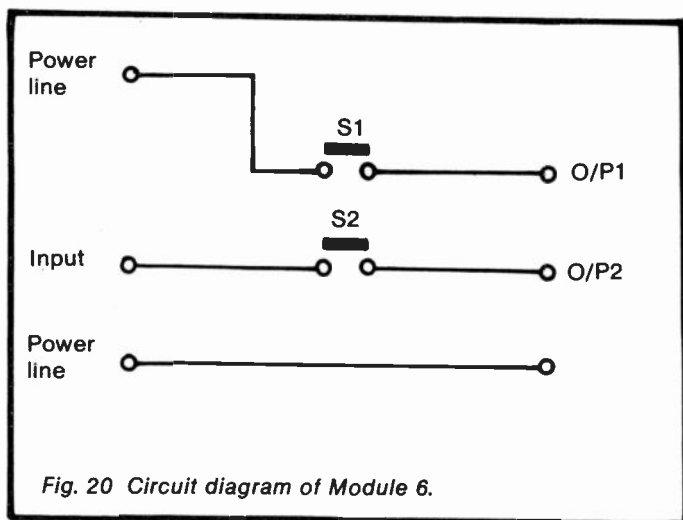

Fig. 20 Circuit diagram of Module 6.
*Circuit diagram:* see Figure 20.